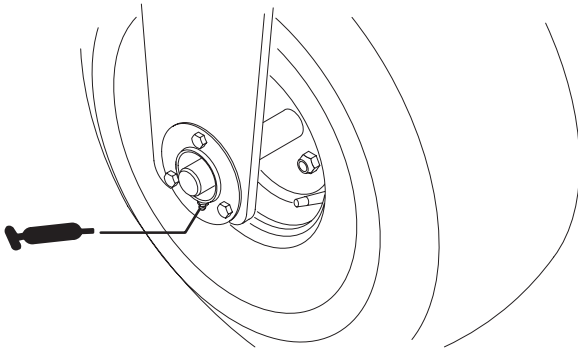

Figure 14
- Front wheel bearing (Fig. 14)